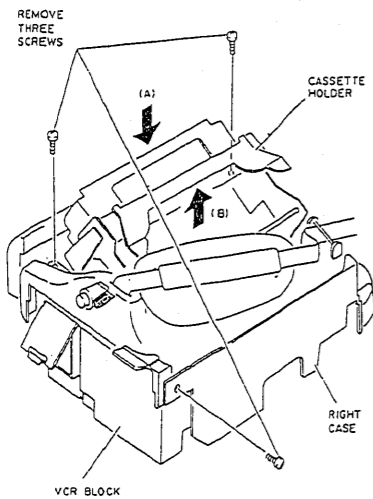

Fig. 3-10
- (14) Remove three (3) screws holding the right case. (See Fig. 3-10)